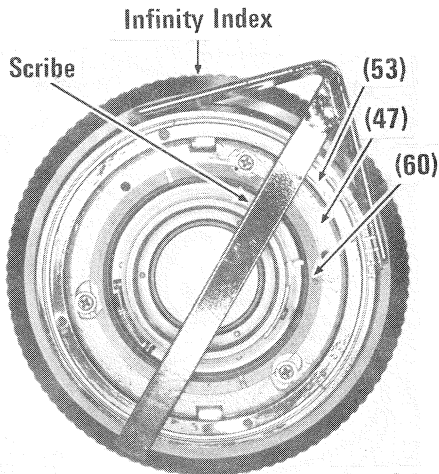

FIG. 3-2
- a) With the lens positioned so that the infinity index line is at the 12 o'clock position, using tool No. 3650536 place a scribe line extending across outer helicoid (53), inner helicoid (47) and front diaphragm housing (60). Fig. 3-2.